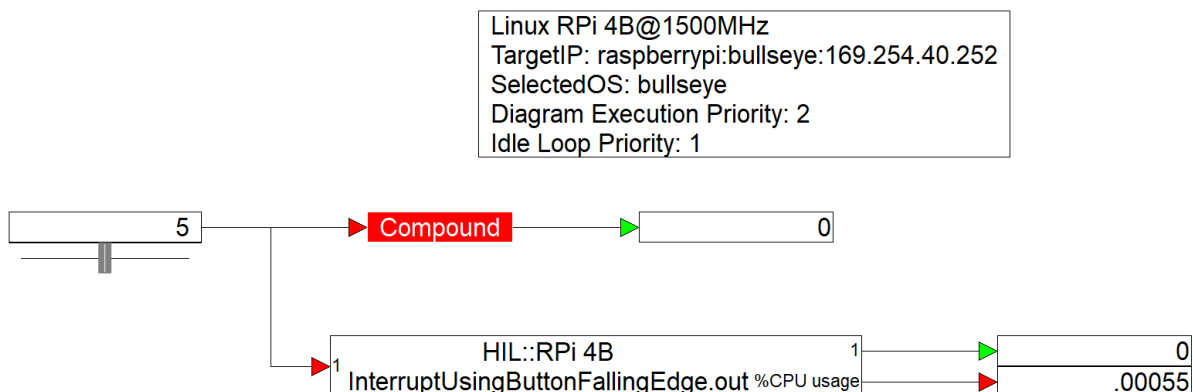

Figure 5: LED blink diagram.
4. Using the **slider** block shown in Figure 5, you can define how much time (in seconds) you want the LED to be ON. You can also see the LED blinking on rising edge of the defined interrupt.